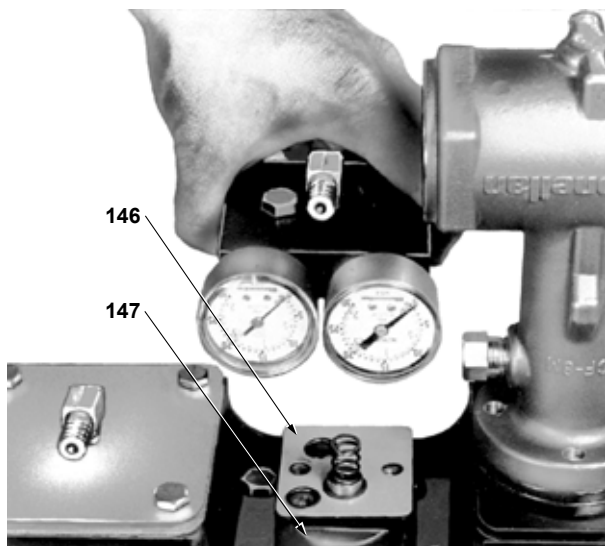

Figure 22 - Positioner assembly
5.6 7700P OR 7700E POSITIONER MAINTENANCE (Figures 22, 23, 24, 25, 26 and 27)
- E. Refit positioner diaphragm assembly (152) and spring (154) to positioner block and tighten screws (148). Check that the small signal port O-ring is in its recess in the diaphragm assembly.
Note: When installing the positioner block (147), turn it so that when the manifold block (144) is installed, the gauge(s) is(are) facing in the right direction (figure 22).